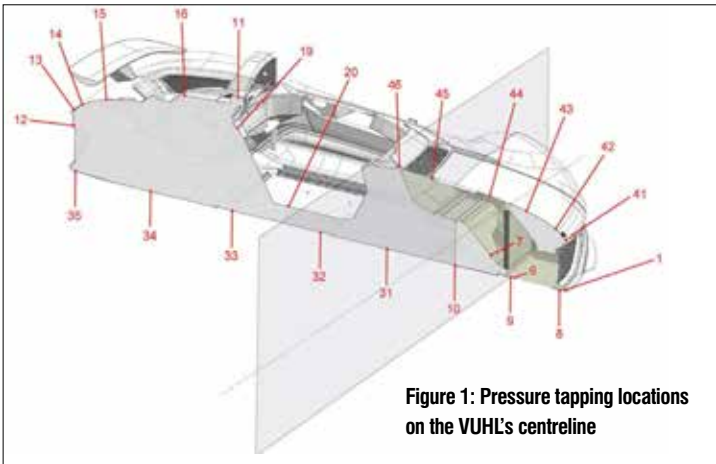
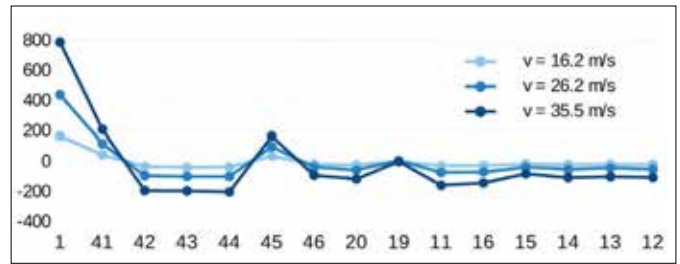

Figure 1: Pressure tapping locations on the VUHL's centreline
Figure 2: Pressures (pascals, Pa) on the VUHL's upper centreline profile at three different speeds
**Figure 1** shows the locations of the pressure taps on the car's centreline, and **Figures 2 and 3** show the measured pressures (in pascals) on the upper and lower surfaces along the centreline at three wind speeds. In **Figure 2** the most obvious aspect is the increase in the magnitude of the pressures with increasing speed, be they positive (increases) or negative (decreases) relative to ambient pressure. Next, we can see how the positive pressure on the front of the car reversed to suction over the forward, convex part of the bonnet and then reversed again to positive ahead of the Gurney located in front of the grill that sits in front of the front screen.